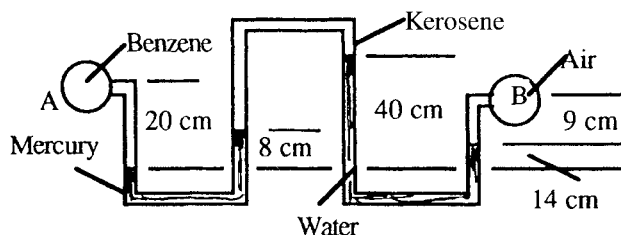

Fig. P2.31
**2.31** In Fig. P2.31 determine  $\Delta p$  between points A and B. All fluids are at  $20^\circ\text{C}$ .